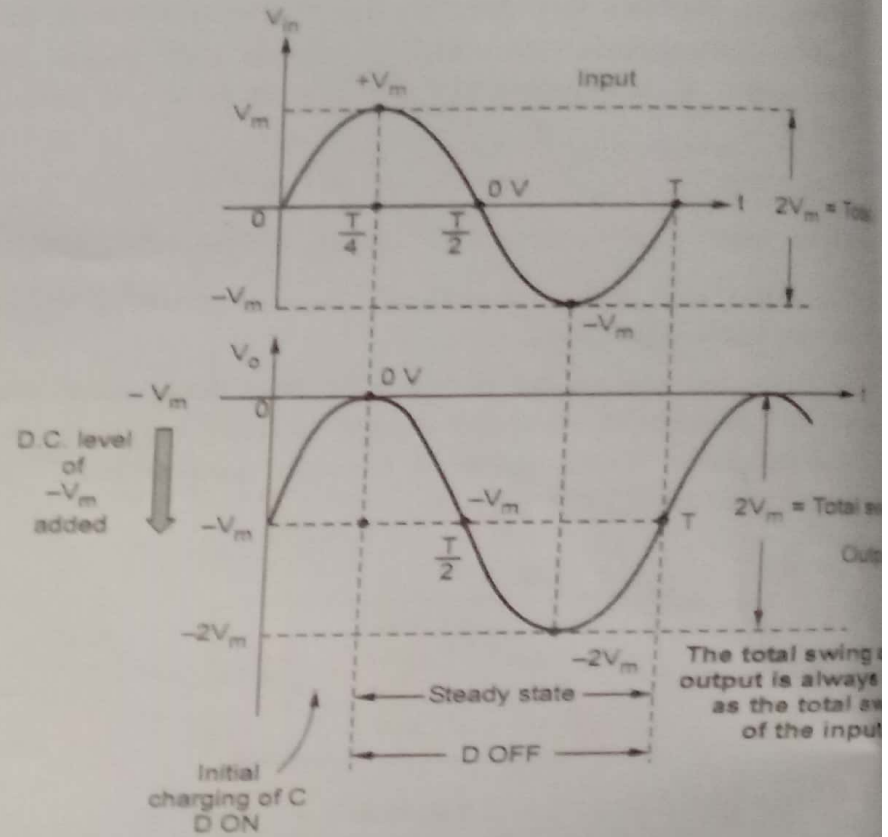

Fig. Q.49.4 Negative clamper waveforms
- Assuming ideal diode, the input and output waveforms are shown in the Fig. Q.49.4.